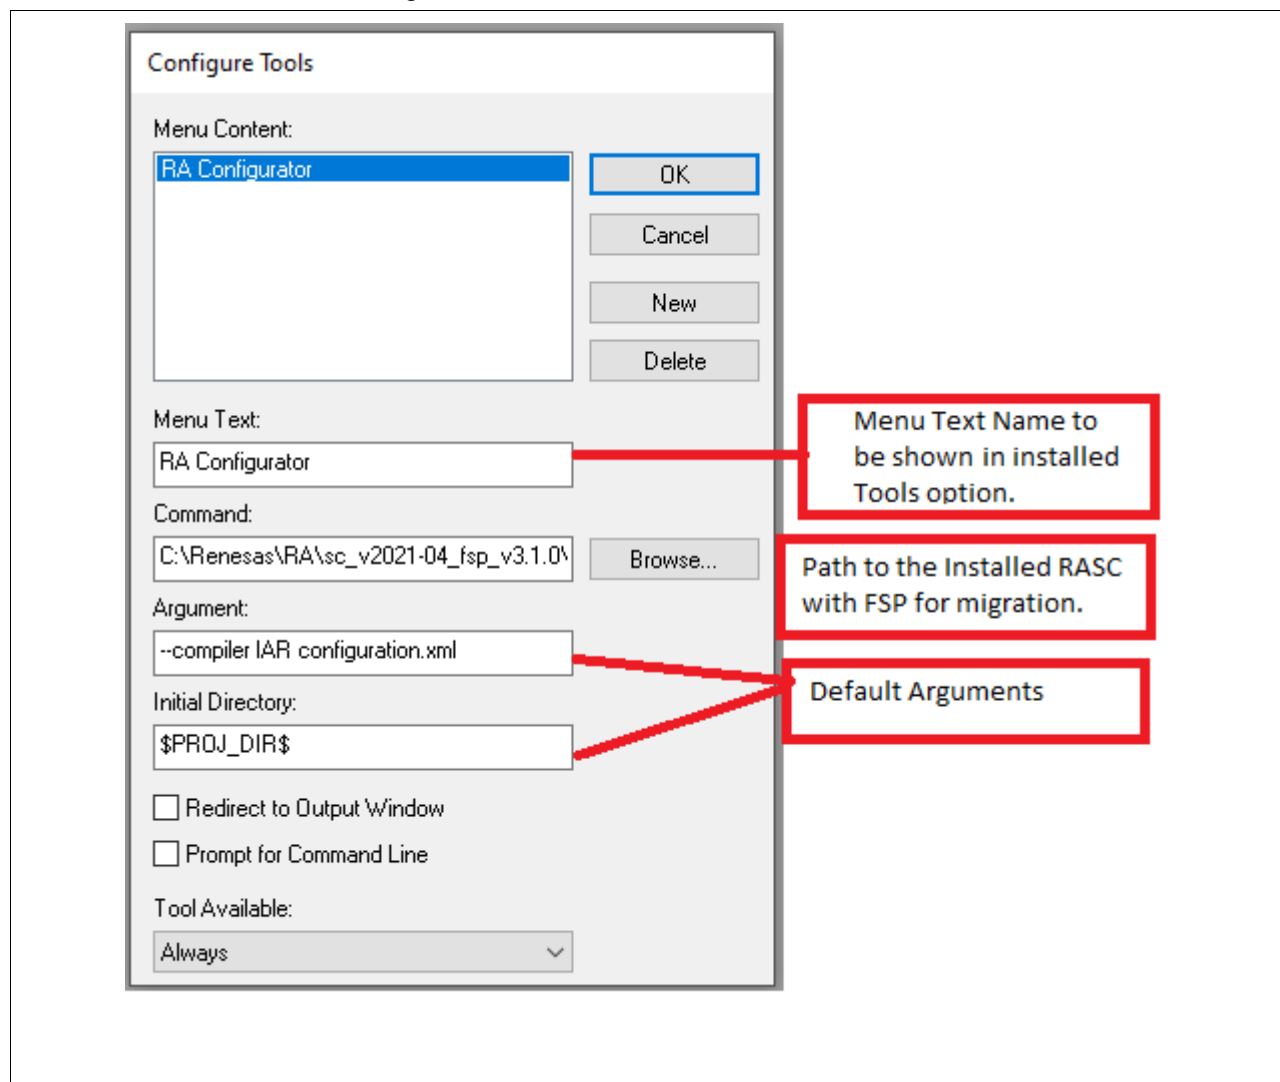

Figure 7. Configure Tools Options
1. When you click the **Configure tools** → **New** option, the following window appears. Configure the related fields as shown in Figure 7.
2. Set the **Configure Tools** options as shown in Figure 7, as described below: